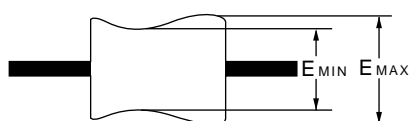

Figure 9 $\frac{E_{MIN}}{E_{MAX}} \geq 65 (\%)$
(1) Envelope check
- 2 Ascertain that the envelope maximum to minimum ratio is 65% or more. (Figure 9)